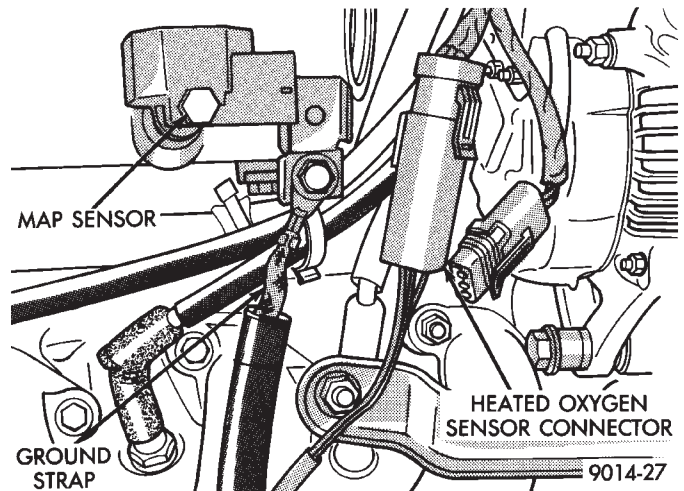
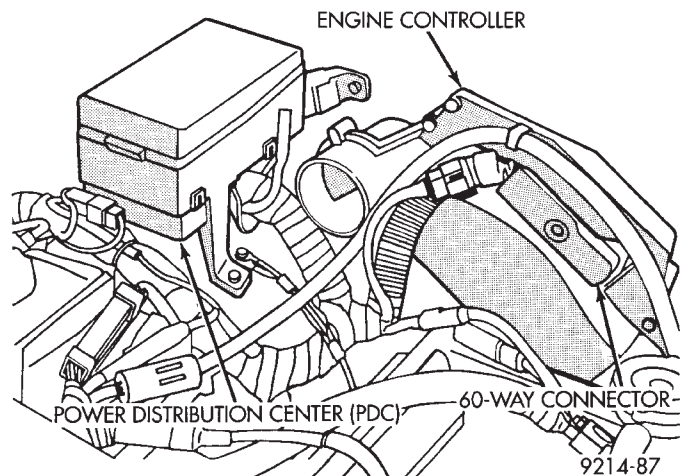

Fig. 14 MAP Sensor, Heated Oxygen Sensor, and Ground Strap
Fig. 15 Engine Controller
(23) Verify the manifold absolute pressure (map) sensor electrical connector is attached to the sensor and not damaged (Fig. 14).
(24) Verify the engine ground strap is attached at the engine and dash panel (Fig. 14). Inspect the strap for corrosion or damage.
(25) Check the heated oxygen sensor electrical connector for damage (Fig. 14).
(26) Inspect the alternator wiring connections for damage.
(27) Check the accessory drive belt tension.
(28) Check the 60-way electrical connection at the Engine Controller (Fig. 15) for damage or spread terminals. Verify that the 60-way connector is fully inserted into the engine controller socket. Ensure the wires are not stretched or pulled out of the connector.
Stored fault codes can be displayed either by cycling the ignition key On - Off - On - Off - On, or through use of the Diagnostic Readout Box II (DRB II). The DRB II connects to the diagnostic connector in the vehicle (Fig. 15).
(1) Connect DRBII to the diagnostic connector located in the engine compartment near the driver side strut tower (Fig. 15).
(2) Start the engine if possible, cycle the transmission selector and the A/C switch if applicable. Shut off the engine.
(3) Turn the ignition switch on, access Read Fault Screen. Record all the fault messages shown on the DRBII. Observe the check engine lamp on the instrument panel. The lamp should light for 2 seconds then go out (bulb check).